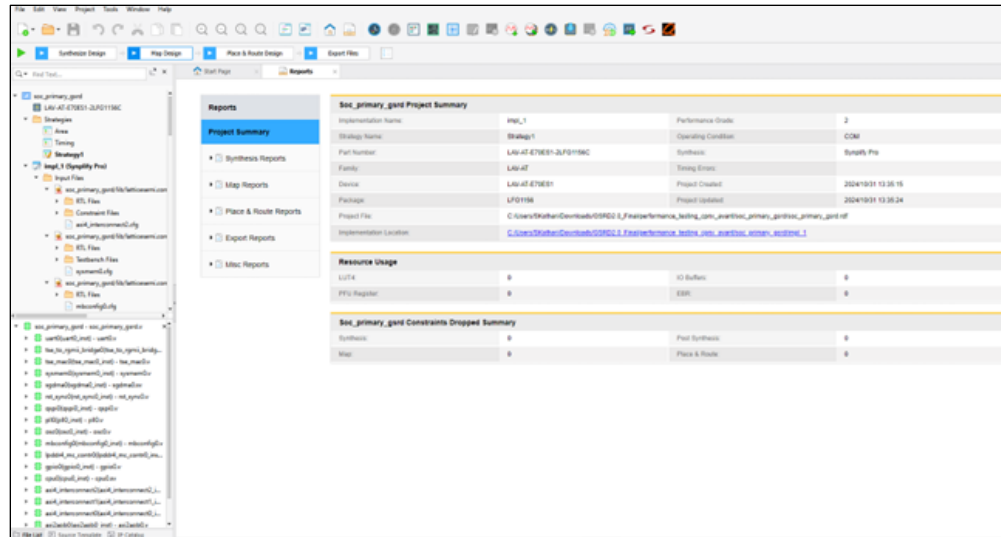

Figure 8.47. Lattice Radiant 2024.1.1 Window
2. The Radiant window of your project is launched as shown in Figure 8.47.